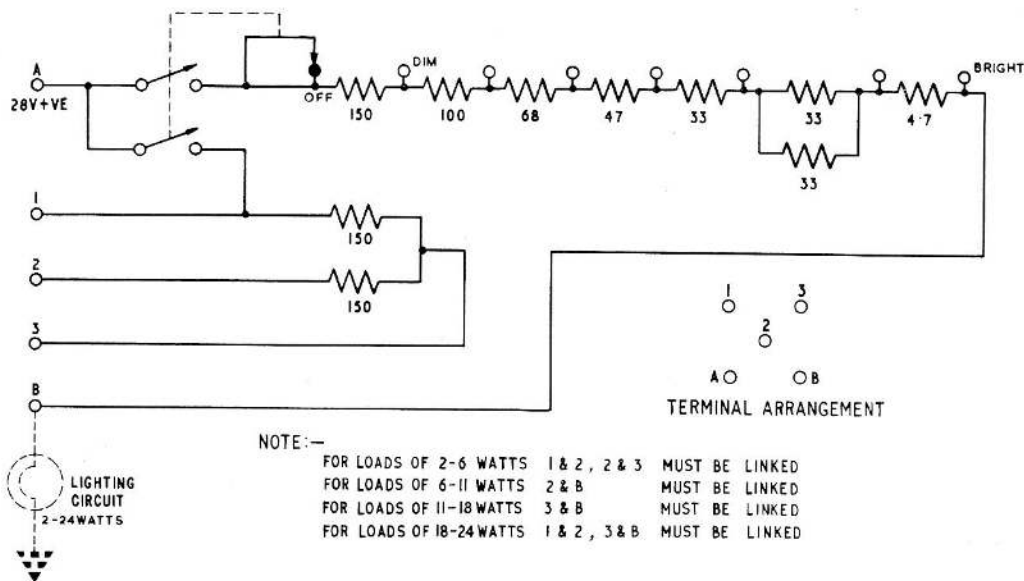

Fig. 1. Circuit diagram
Power dissipated	refer to Fig. 1
2. A two-gang, 9-position switch is wired as shown in figure 1 to provide step control of lighting intensity on four ranges of loads as determined by the positions of the terminal links.